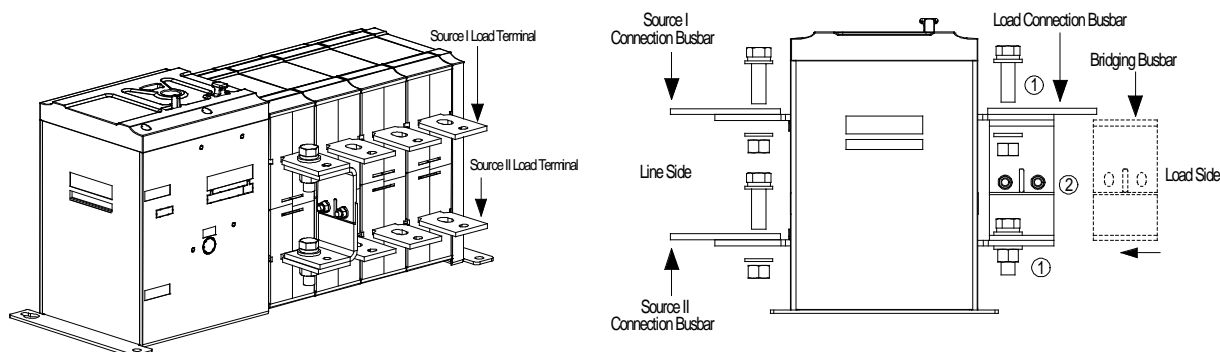

Figure 2-2 Installation of Bridging Busbar
- 2) As shown in Figure 2-2, insert the bridging bus bars between the Source I load side terminal and the Source II load side terminal with M12 hardware. One bridging bus bar is made of two separate L-shaped bus bars which are attached together with M6 hardware.